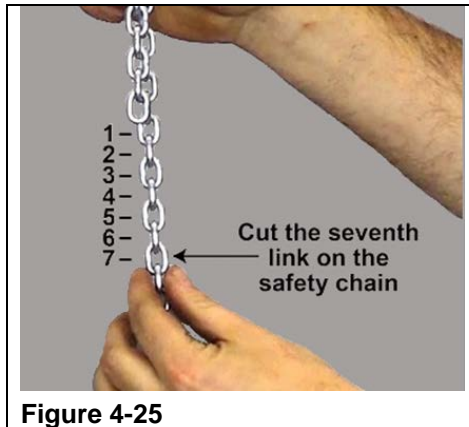

Figure 4-25
- Step 33. Count down seven links from the end of the load chain. Cut the seventh link so the SDS chain is six links longer than the load chain. (Refer to Figure 4-25)